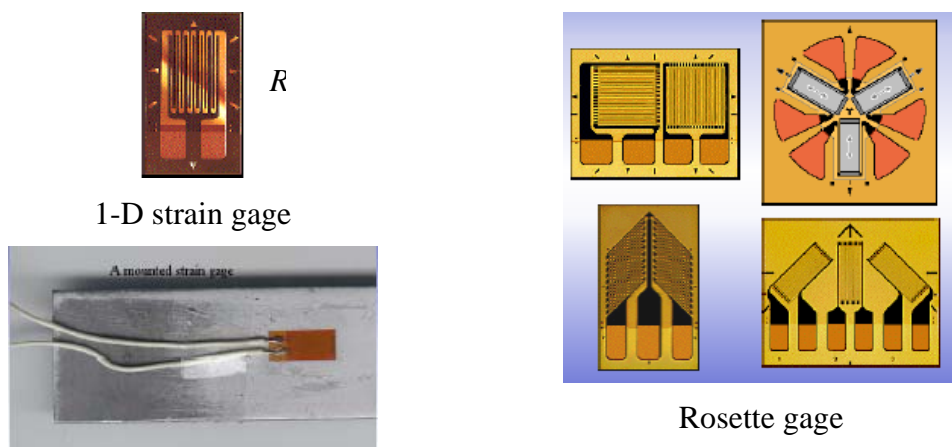

Figure 2: Different types of strain gages
- Use to measure local strain in a lateral direction of the gage (see Figure 2)
- Can measure multi-directional strain using rosette gages (see Figure 2)